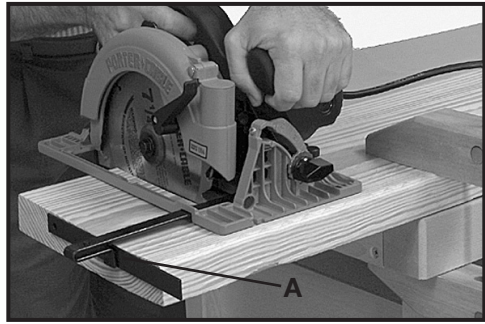

Fig. 13
A rip guide (A), Fig. 13, is available as an accessory. Install rip guide as follows:
For narrow rip cuts, the rip guide, available as an accessory can be used. The saw is guided by keeping the inner face of the rip guide, Fig. 13, tight against the edge of the board.